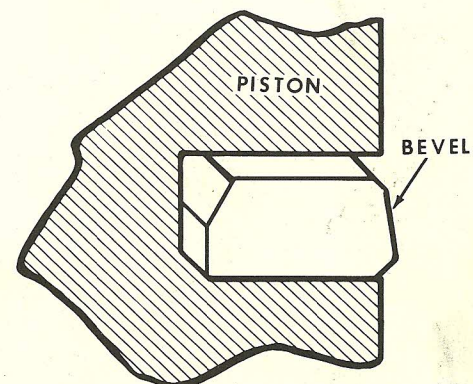

Figure M-34
5. Install top compression ring in last or top groove with bevel up, Figure M-34.